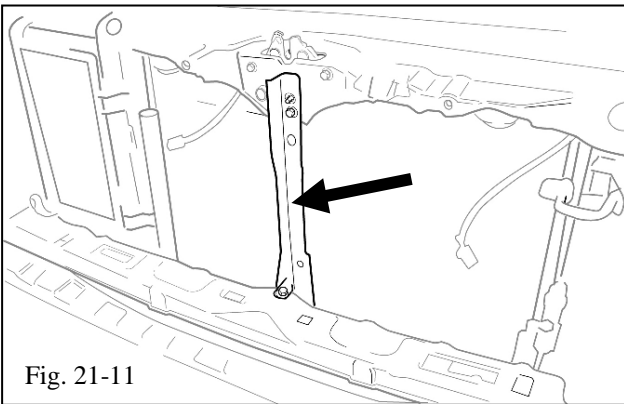

Fig. 21-11
- (g) Remove the radiator support brace by removing 1 nut and 2 bolts (Fig. 21-11 & Fig. 21-12).